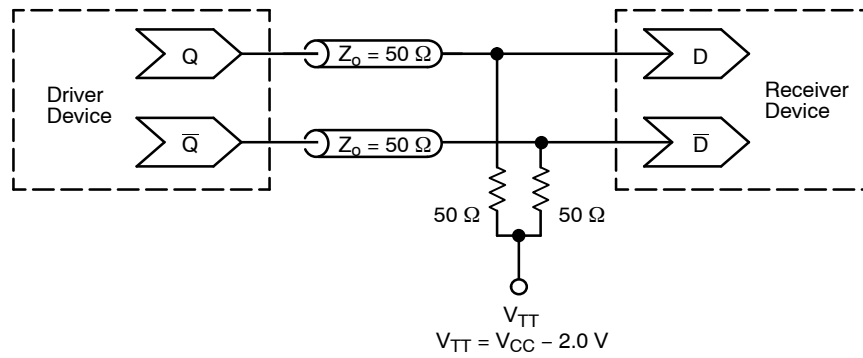
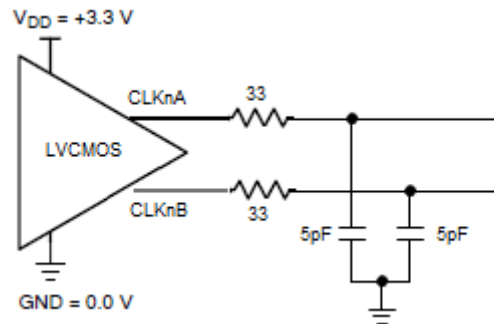

Figure 9. Typical Termination for LVPECL Output Driver and Device Evaluation (See Application Note AND8020/D – Termination of ECL Logic Devices.)
Figure 11. Typical LVCMOS Output Test Setup for Evaluation
- 13. Measured by using a 25 MHz crystal as clock source. All LVPECL outputs are loaded with an external $R_L = 50\ \Omega$ to $V_{DDO} - 2\text{ V}$ (Figure 9); LVCMOS outputs loaded with $R_S = 33\ \Omega$, $C_L = 5\text{ pF}$, 5" 50 Ω trace, (Figure 11).